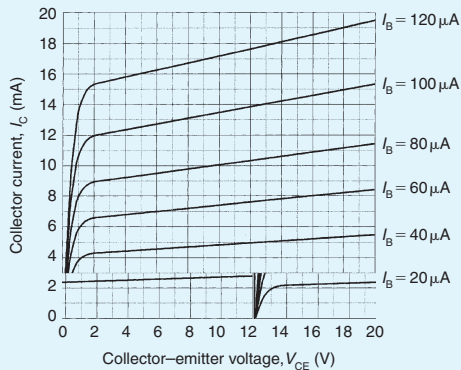

Figure 12.27
- The output characteristics for a BJT are shown in Fig. 12.27. If this device is used in a common-emitter amplifier circuit operating from a 12 V supply with a base bias of  $60\ \mu\text{A}$  and a load resistor of  $1\ \text{k}\Omega$ , determine (a) the quiescent values of collector-emitter voltage and collector current and (b) the peak-peak collector voltage when an  $80\ \mu\text{A}$  peak-peak signal current is applied.